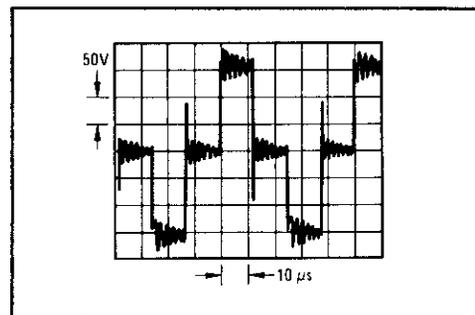

Figure 8-902. Waveform at Pin 2 of T3
8. Look at the waveform at pin 3 of transformer T3. This is the output of the switching transistors. The waveform should be as shown in the Figure 8-902, below.